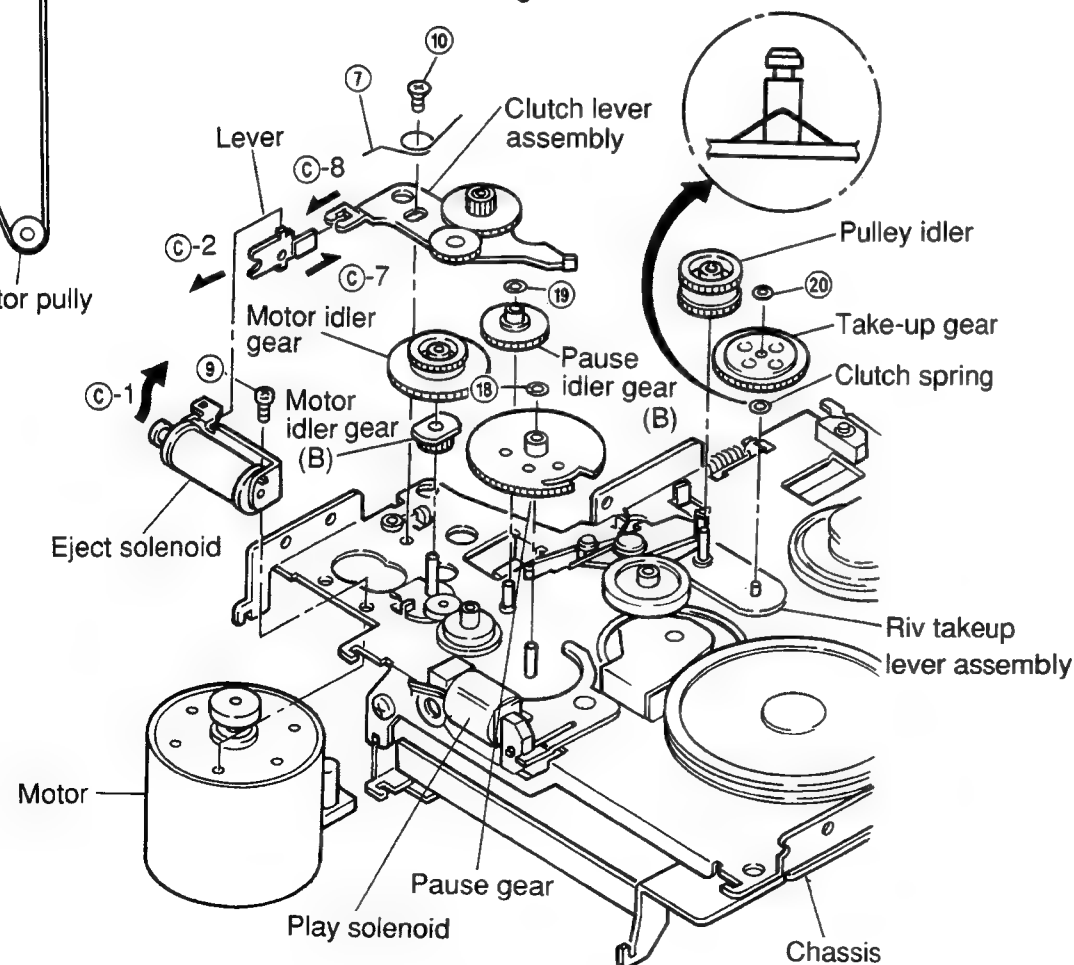
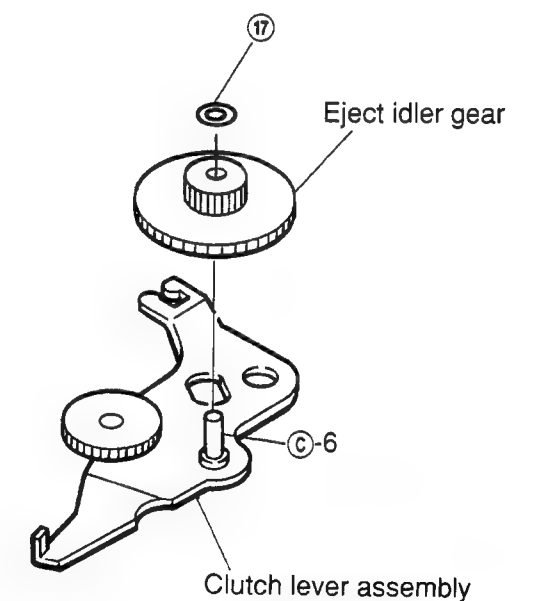

Figure 10
Figure 15
- (1) After removing the belt, remove spring ⑦ as shown in Figure 10.
- (3) Remove two screws ⑨ and ⑩, and remove the motor, taking care not to damage the motor idler gear. (Refer to Figure 10.)
- (4) Mount the new motor following the removal steps in the reverse order.
- (2) Remove screw ⑨ and remove the play solenoid as shown in Figure 10.
- (3) Align position ㉞-1 of the new solenoid with position ㉞-2 of the lever and fasten the screw as shown in Figure 10.
- (4) Lead the wire through the tube and solder it.
- (1) After removing the motor, remove the motor idler gear and the motor idler gear (B) and remove the clutch lever assembly as shown in Figure 10.
- (2) Remove M1.2 lock washer (17) and remove the eject idler gear as shown in Figure 15.
- (3) Mount the new gears and clutch lever following the removal steps in the reverse order.
Note: When mounting the gears to the lever, apply grease (FLOIL 425A) to the position C-6 as shown in Figure 15. Align the position C-7 with the position C-8 and mount the clutch lever as shown in Figures 10 and 15.
- (1) Remove M1.2 lock washer (18) and remove the pause gear pulling it up from the stud of the chassis as shown in Figure 10.
- (2) Mount the new gear following the removal steps in the reverse order.
- (1) After removing the motor and the motor idler gear, remove M1.2 lock washer (19) and remove the gear by pulling it up from the stud of the chassis as shown in Figure 10.
- (2) Mount the new gear by following the removal steps in the reverse order.
- (1) After removing the belt and the pulley idler gear, remove M1.2 lock washer (20) by pulling it up from the stud of the riv take-up lever assembly as shown in Figure 10.
- (2) Remount the take-up gear following the removal steps in the reverse order.